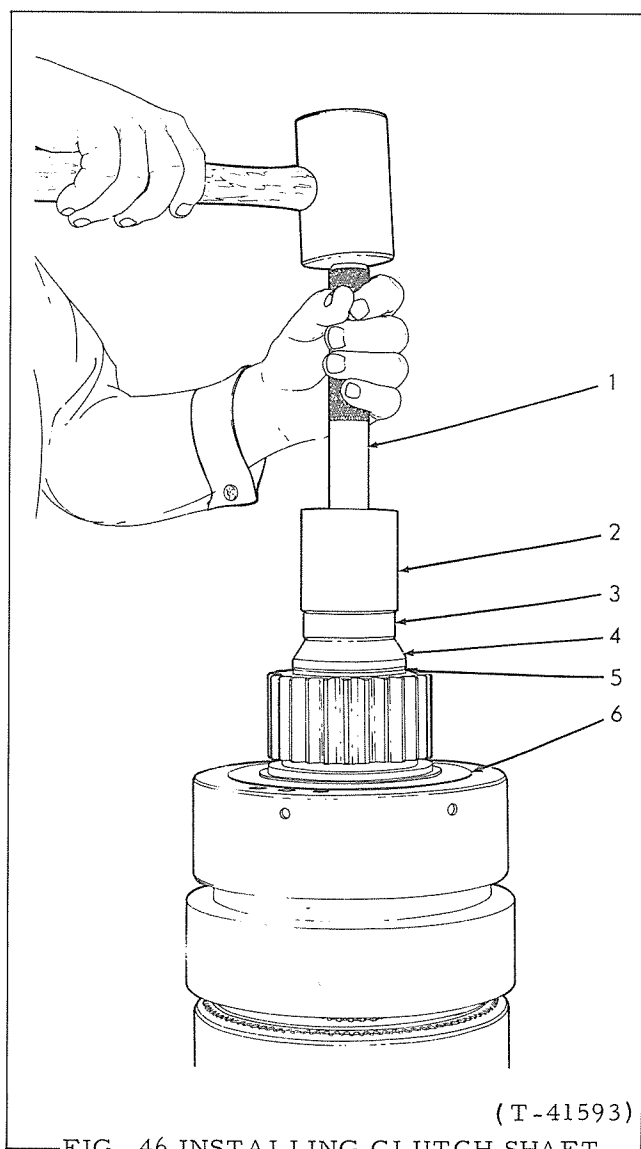

FIG. 46 INSTALLING CLUTCH SHAFT—
- p. Refer to Fig. 46, install spacer and thrust washer (5) on shaft (spacer against clutch gear); install rear bearing spacer (4). Using a suitable driver, install rear bearing inner race (3) and secure with snap ring.